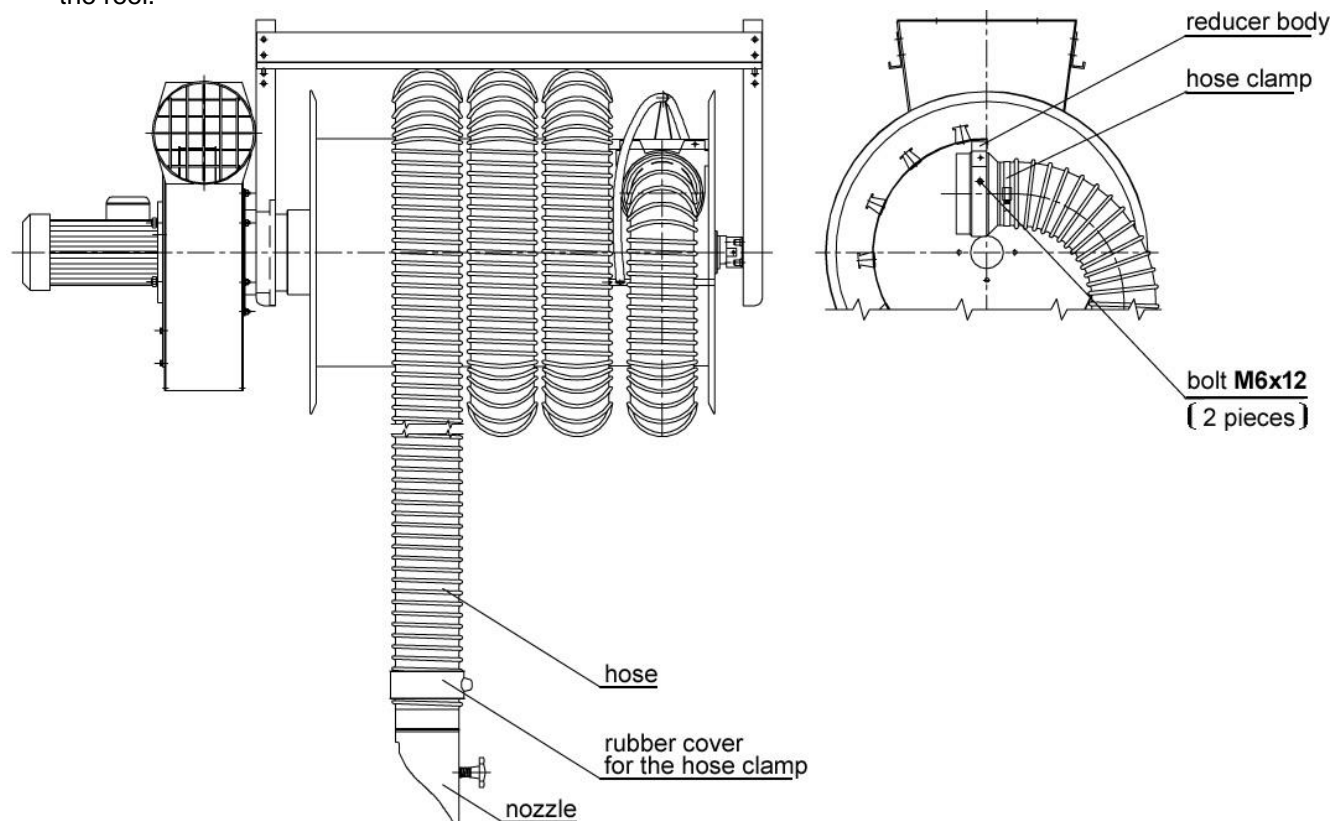

Fig. No.3 – Hose assembly – installing
2. Put the hose assembly inside the reel – screw up the reducer to the reducer body with 2 screws (Fig. No.3 “Hose assembly - installing”)